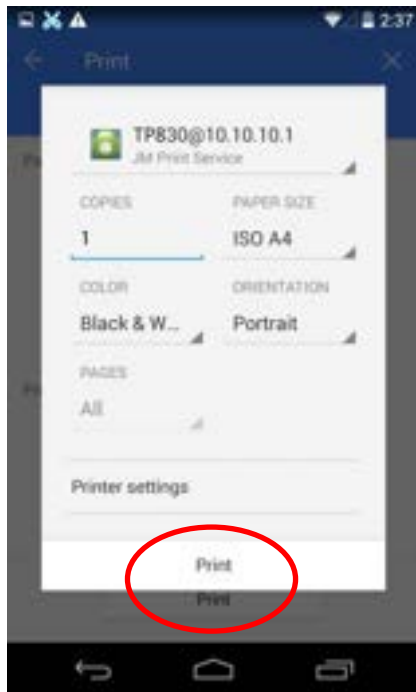

Figure 31
4.7 Make sure the printer and the corresponding printing parameters are correct, click “Print”, as shown in Figure 31;